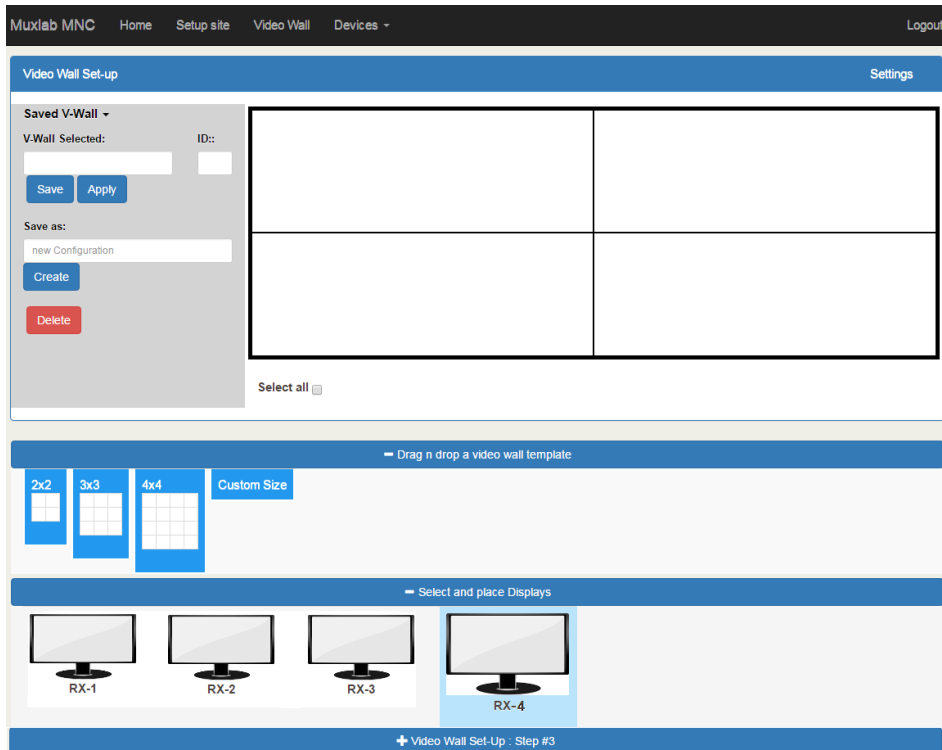

Figure 257: Video Wall Tab – Newly Created 2x2 Video Wall
- 2. The user clicks on **+Video Wall Set-Up: Step #2**, which expands to provide the user with display mapping options (Figure 257).